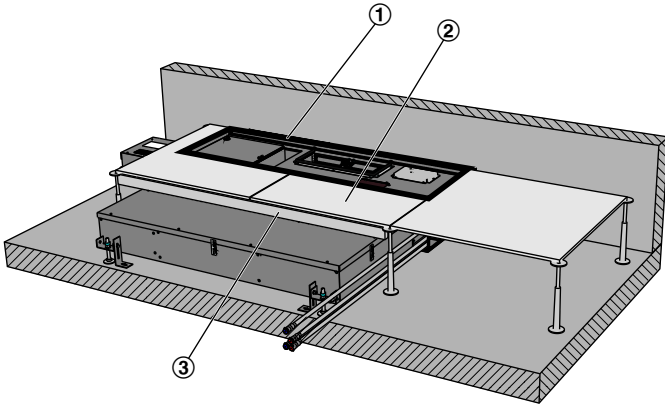

Fig. 6: Building the raised floor
5. ▶ The height of the raised floor (Fig. 6/2) has to be such that the ventilation grille is flush with the finished floor including flooring (grille max. 0.5 mm lower than the floor surface); leave an opening the size of the ventilation unit (Fig. 6/1). Do not place any props or studs near the ventilation unit. Support the ventilation unit across the entire width with a support structure (Fig. 6/3).